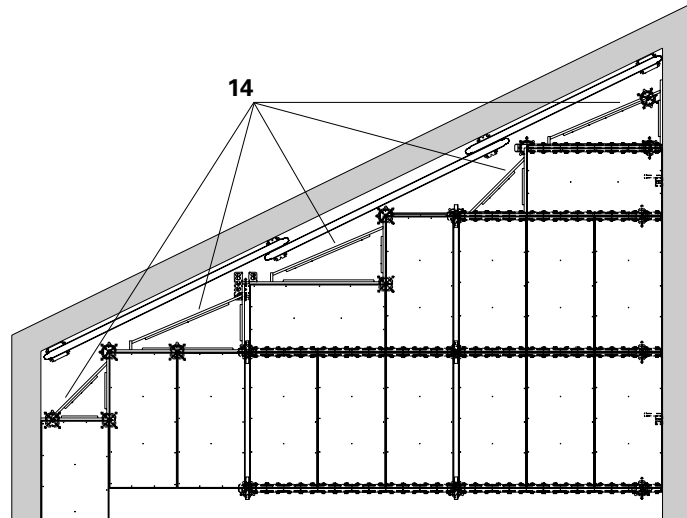

Fig. A5.20
3. Lay Triangular Frame (14) on the support (Main Beam, Prophead or Combihead, End Support). (Fig. A5.20)